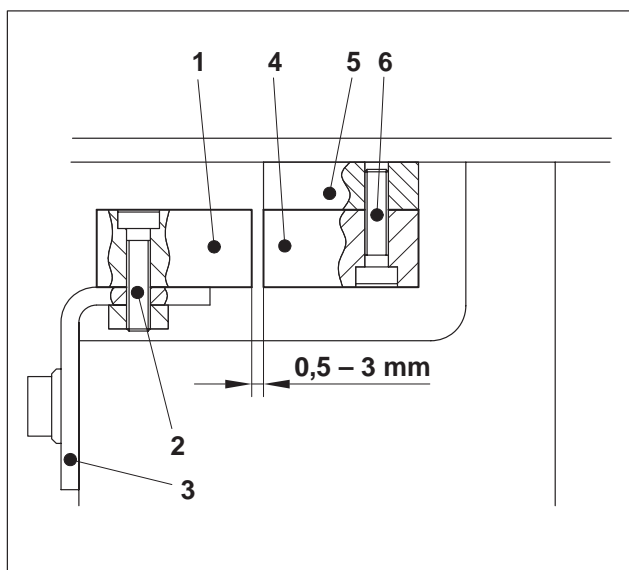

Fig. 12 Installed reed-contact switch type 153
The switch consists of a sensor (Fig. 12/1) and an actuating magnet (Fig. 12/4). Only use sensors with the casing model "153".
With the guard closed, the distance between the sensor and the actuating magnet must be **0.5...3 mm** (Fig. 12).
- 1 Remove the existing sensor (Fig. 12/1).
- 2 Moisten the two Allen screws (Fig. 12/2) for the new switch with thread glue SN604-S1.
- 3 Use the Allen screws to secure the new sensor on the aluminium support (Fig. 12/3).
- 1 Remove the existing actuating magnet (Fig. 12/4).
- 2 Moisten the two Allen screws (Fig. 12/6) for the new actuating magnet with thread glue SN604-S1.
- 3 Use the Allen screws to secure the new actuating magnets on the aluminium support (Fig. 12/5).